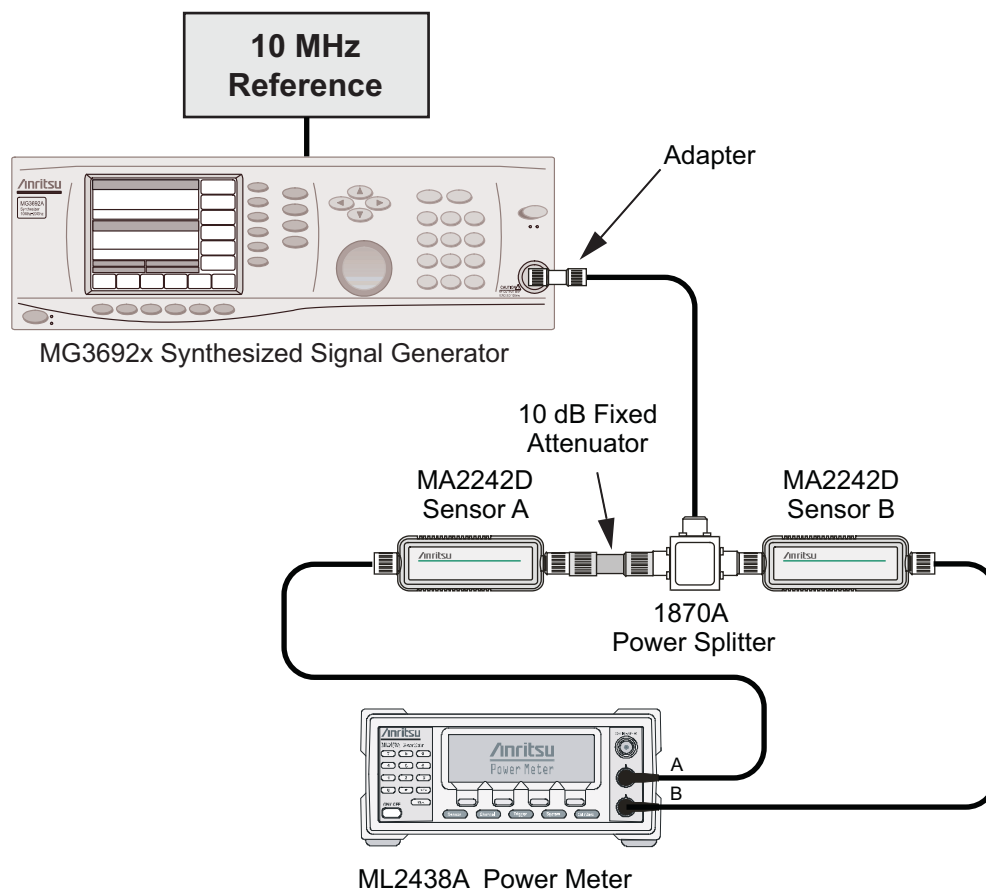

Figure 4-1. Power Meter Measurement Accuracy
2. Connect the model 1870A power splitter to the MG3692A/B output and Sensor B to one of the power splitter outputs (Figure 4-1)